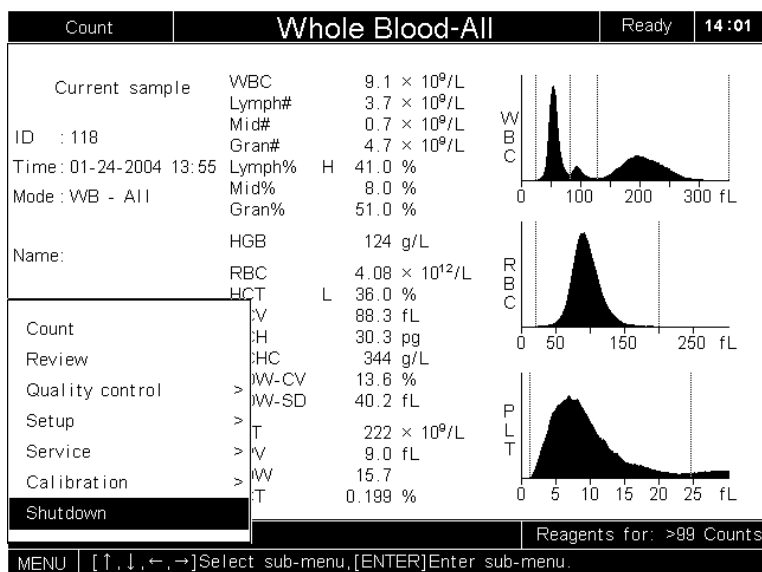

Figure 3-16 Performing the Shutdown procedure from the system menu.
1. Press [MENU] to enter the system menu and press [↑] or [↓] to move the cursor to **Shutdown**, as Figure 3-16 shows.